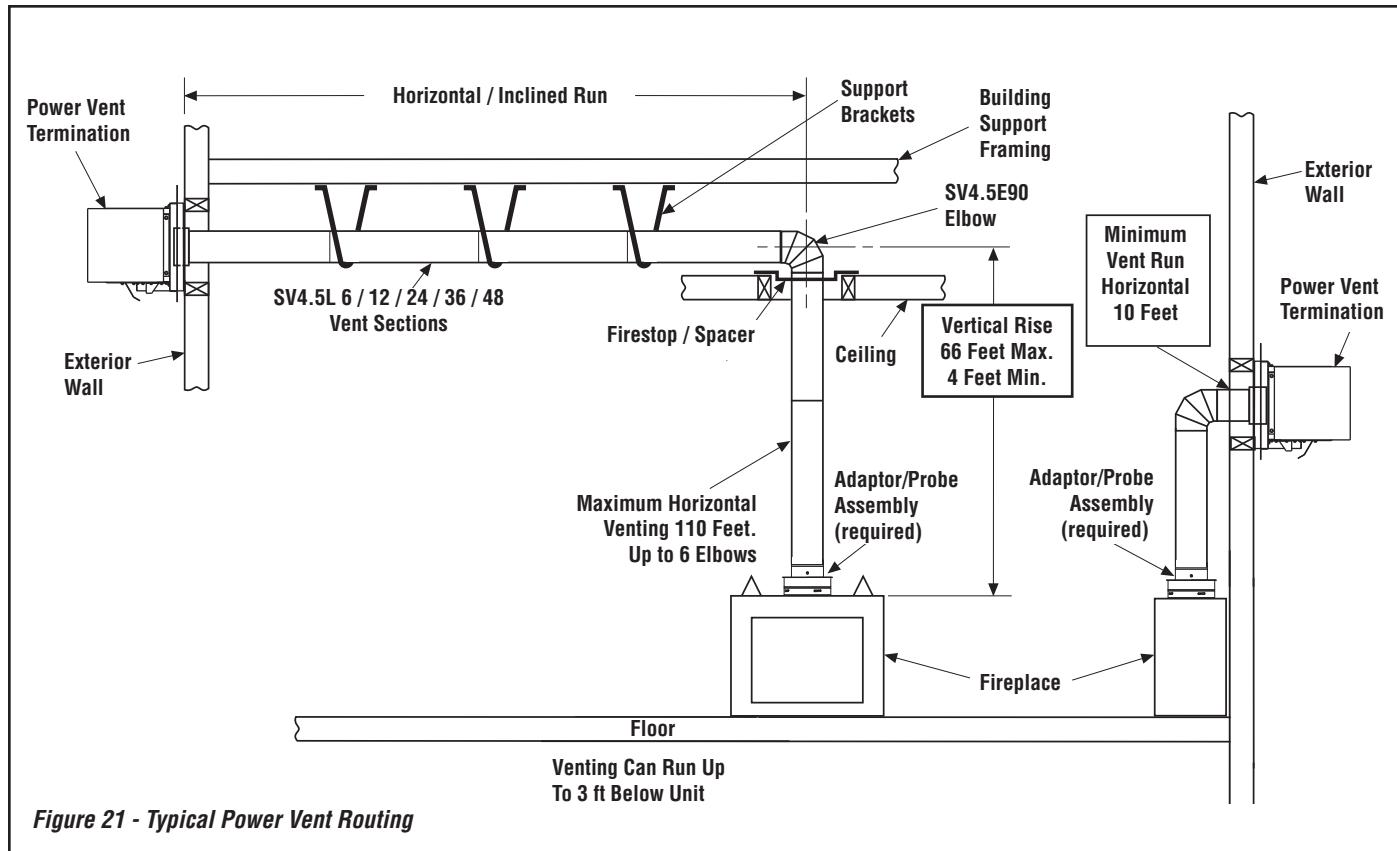
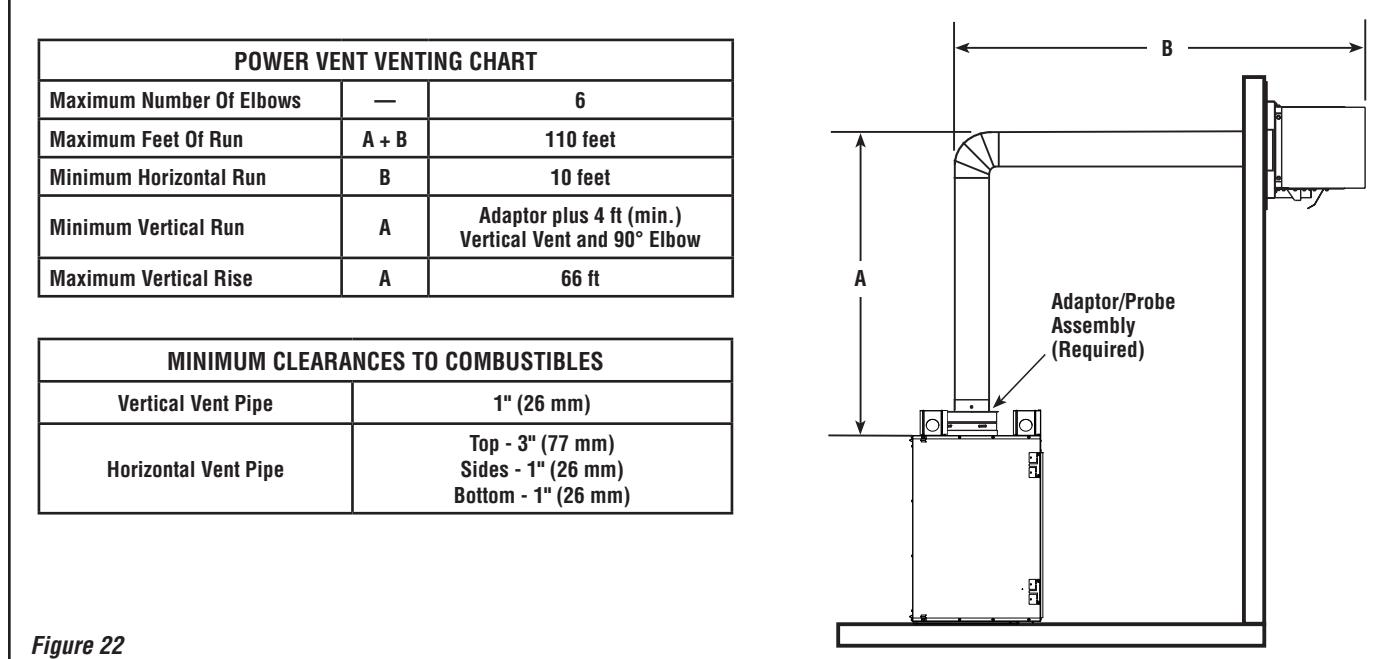

Figure 21 - Typical Power Vent Routing
Figure 22
C. Attach vent components to each other. Other vent sections may be added to the previously installed section in accordance with the requirements shown in *Figures 21 and 22 on Page 19*.
G. Continue installation of horizontal/inclined sections. Continue with the installation of the straight vent sections in horizontal/inclined run as described in **Step C**. Install support straps every 3' (914 mm) along horizontal/inclined vent runs using conventional plumber's tape (*see Page 19, Figure 21*).
See Figures 21 and 22 on Page 19 illustrating the various horizontal venting configurations that are possible for use with these appliances. The table in **Figure 22 on Page 19** shows each system's minimum and maximum vertical and horizontal length values that can be used to design and install the vent components in a variety of applications.
See **Figure 21 on Page 19**.